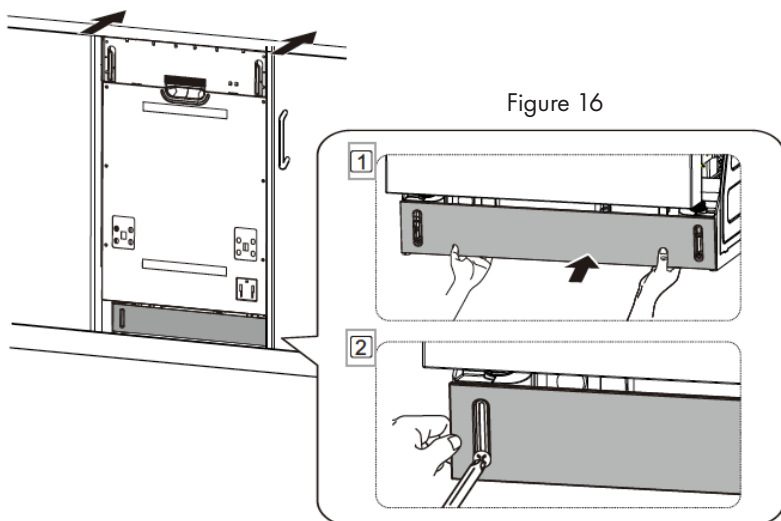

Figure 16
5. Confirm that the kick plate gasket is on the bottom of the kick plate. To install the kick plate with screw ST3.9*13, refer to the figure 16.